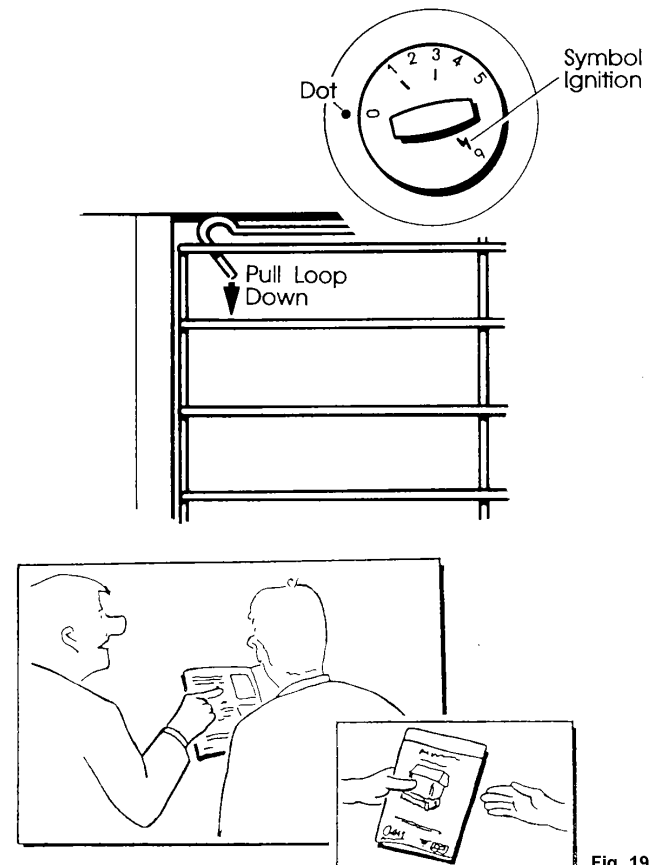

Fig. 19
- d) The control knob has numbers to help find the best setting, but it is not a thermostat. See Fig. 19.